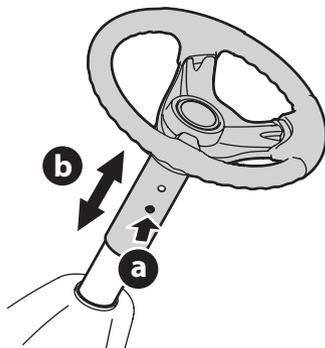

Figure 5
- Push the button (a) on the steering column and raise or lower the steering wheel (b) to the desired position. See Figure 5.